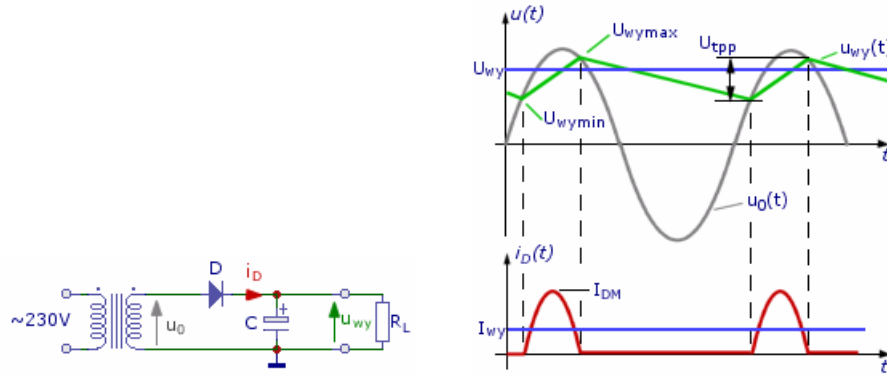
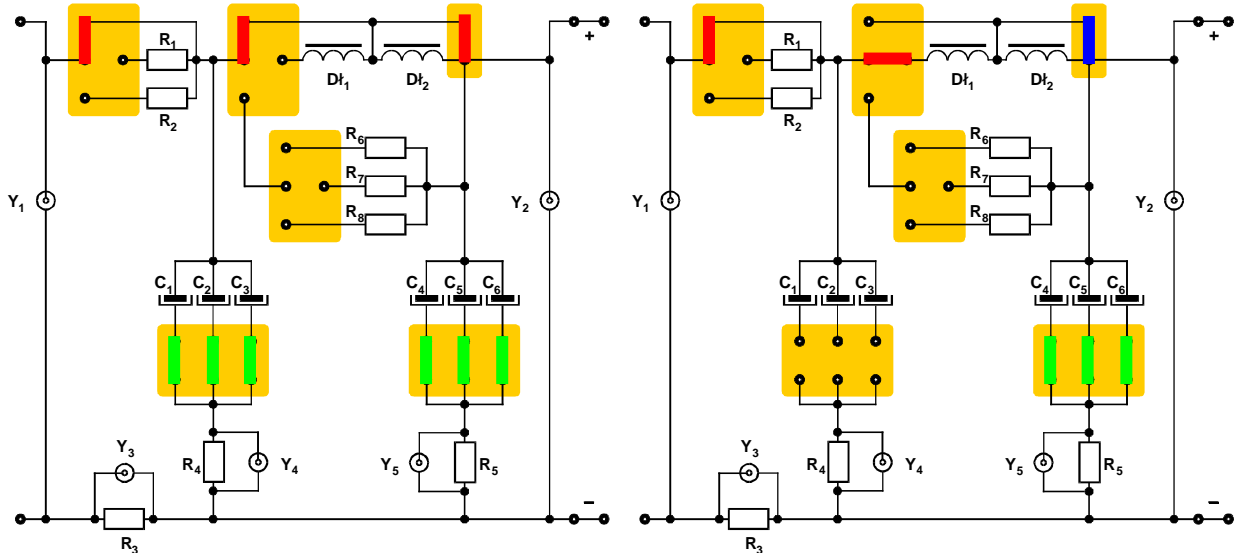
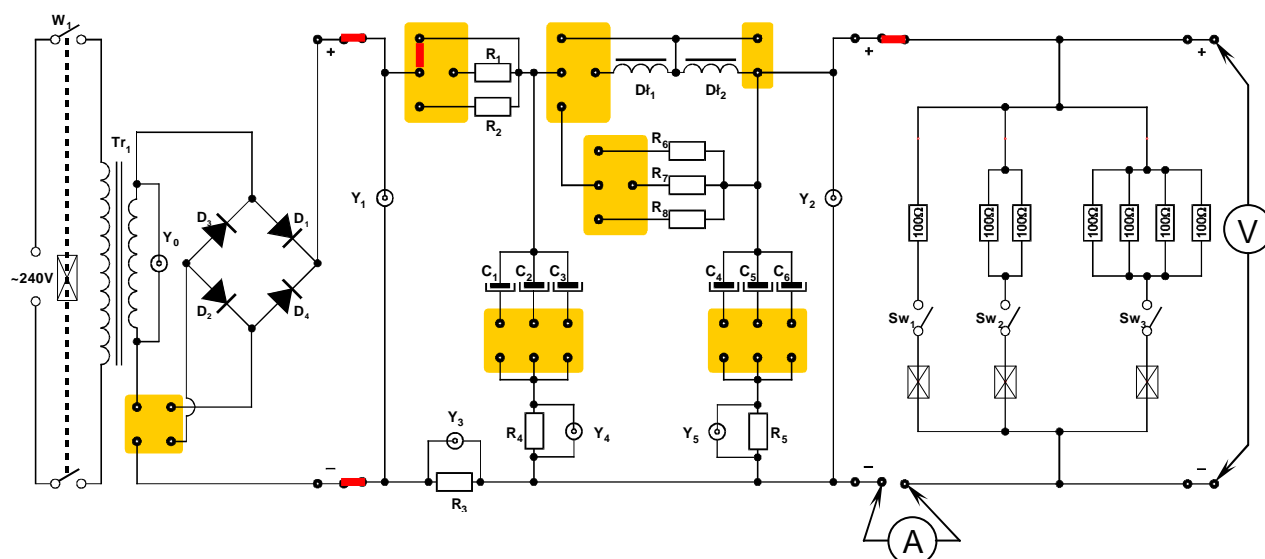

Fig.4. Schematic diagram of half-wave rectifier circuit with simple capacitor filter and oscillograms of output signals of voltage and diode current [4].
Fig. 7a. Simple capacitor filter. Red color jumpers are fixed. Green color jumpers are used to change the capacitance of filter.
Fig. 10. Total schematic diagram of investigated setup to observe ripple voltage for different filters and various resistances of load.
5. Connect the circuit according to the diagram presented in Fig. 10 to observe and measure the ripple voltage. Use the jumper to select the half-wave mode of rectifier (see the Fig. 6a). Check if all of Sw_1 , Sw_2 , Sw_3 switches are set to 0 ($R_L \rightarrow \infty$, no load). Use the jumpers to select the simple capacitor filter at the middle front panel of module (see Fig. 7a). Set the capacitance to $C=C_1$. Select 200V DC and 20A DC ranges of DMMs. **WARNING: you have to connect the red wire of DMM ammeter to terminal marked as 20A.** Connect the two channels of oscilloscope to Y_2 and Y_3 BNC connectors on the front panel of experimental module. Signal from Y_2 allow to measure the ripple voltage of rectifier. **Ask the supervisor to approve the circuit configuration before you switch on the power.** Use the W_1 switch to power on the circuit. Read the peak-to-peak ripple voltage U_{tpp} (see the Fig. 4) directly from the oscilloscope display. Notice the indications of DMMs (U_{wy} , I_{wy}). Write down the obtained results in the Table 1.